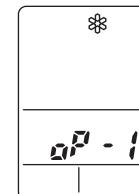

Fig. 34
- d) \ast appears and “oP-1” blinking in the remote controller clock display area. (Fig. 34)